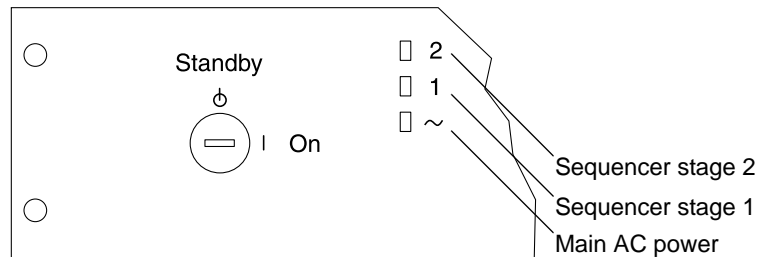

FIGURE 2-15 Front Sequencer Status Lights
The three power indicators on the front sequencer panel show the status of the front power sequencer (FIGURE 2-15). The main AC power light emitting diode (LED) illuminates when power is applied to the system. The LED for sequencer stage 1 illuminates next, followed immediately by the LED for sequencer stage 2.
- a. Verify that the three front sequencer status lights are illuminated (FIGURE 2-15), indicating that power is applied to the Storage Service Processor, Ethernet hub, and Storage Service Processor accessory tray.